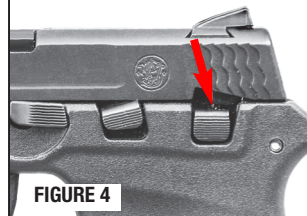

FIGURE 4
- Point the muzzle in a safe direction, place the safety lever (if your pistol is so-equipped) in the lowered "FIRE" position to allow the slide to be moved rearward (FIGURE 4).